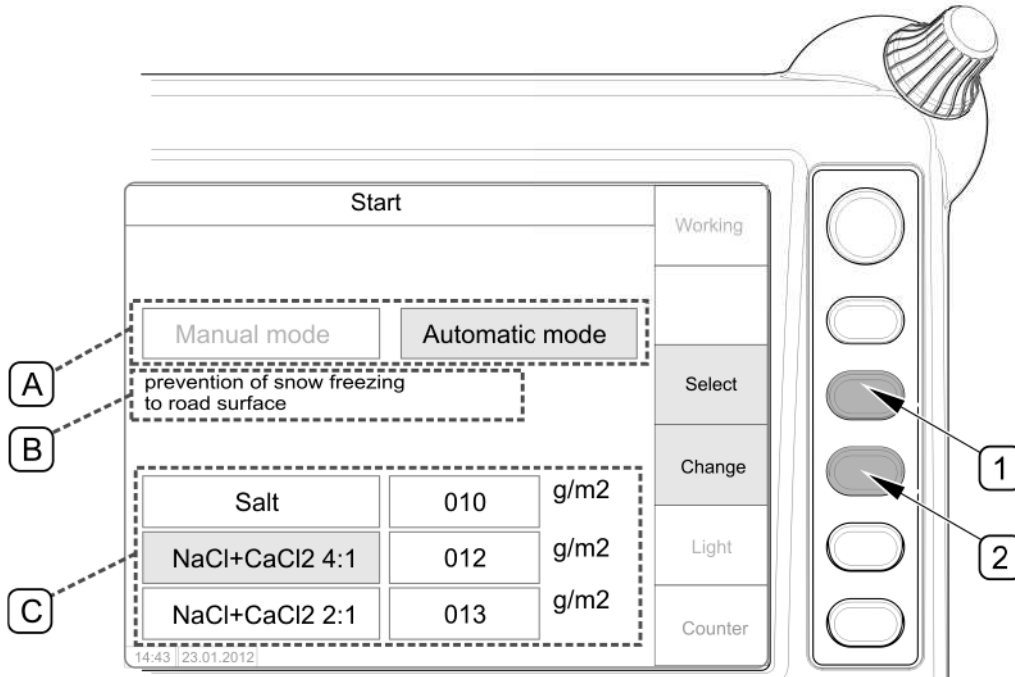
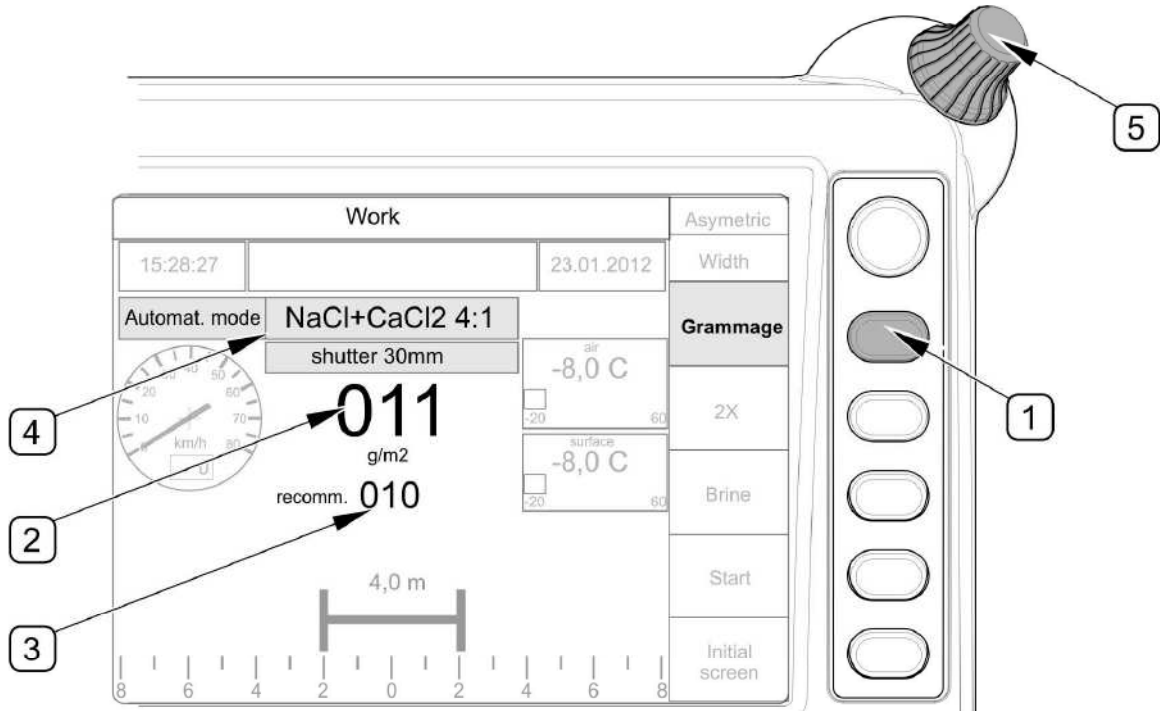

FIG. 4.31 Selection of automatic mode (option)
FIG. 4.32 Correction in automatic mode (option)
- mark working mode type selection field (A) on „Start” home page of the control panel (FIG. 4.31) by means of push-button (1),
- select "Automatic mode" by means of push-button (2) "Change"
- select one of the three defined modes T1,T2,T3 by means of push-button (1) "Selection",
- by means of push-button (1), mark field (C) and then, by means of push-button (2) „Change”, select (C) type of material to be spread that is currently in the tank (automatic mode can not be selected for „Sand”)
On control panel working page ("Operation") (FIG. 4.32), the operator can correct the dose for a defined automatic mode after selecting "Spreading density" function by means of push-button (1). Correction is made by means of knob (5). Recommended density (3) for a defined mode T1, T2 or T3 is displayed below spreading density set by the operator (2) (FIG. 4.32)